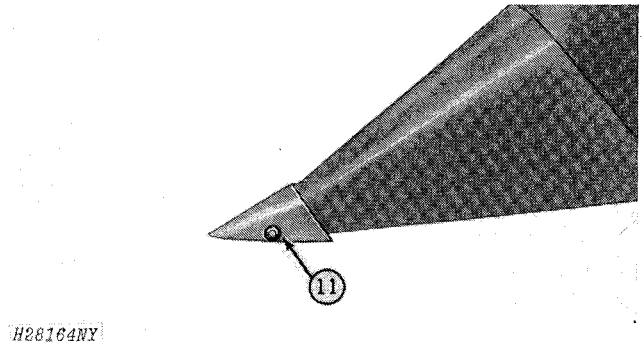

Fig. 72-Attaching Floating Shoes
11. Attach shoe assembly to end of divider point with a 5/8 x 2-5/8-inch cap screw, lock washer, and nut (Fig. 72). Push tip of shoe up and against divider point while tightening hardware.